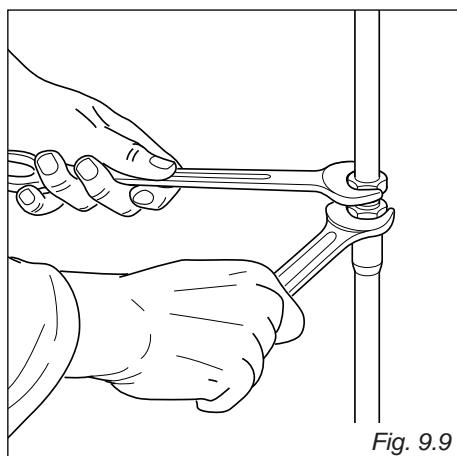

Fig. 9.9
- To fix the parts it is necessary to operate with 2 spanners (fig. 9.9).